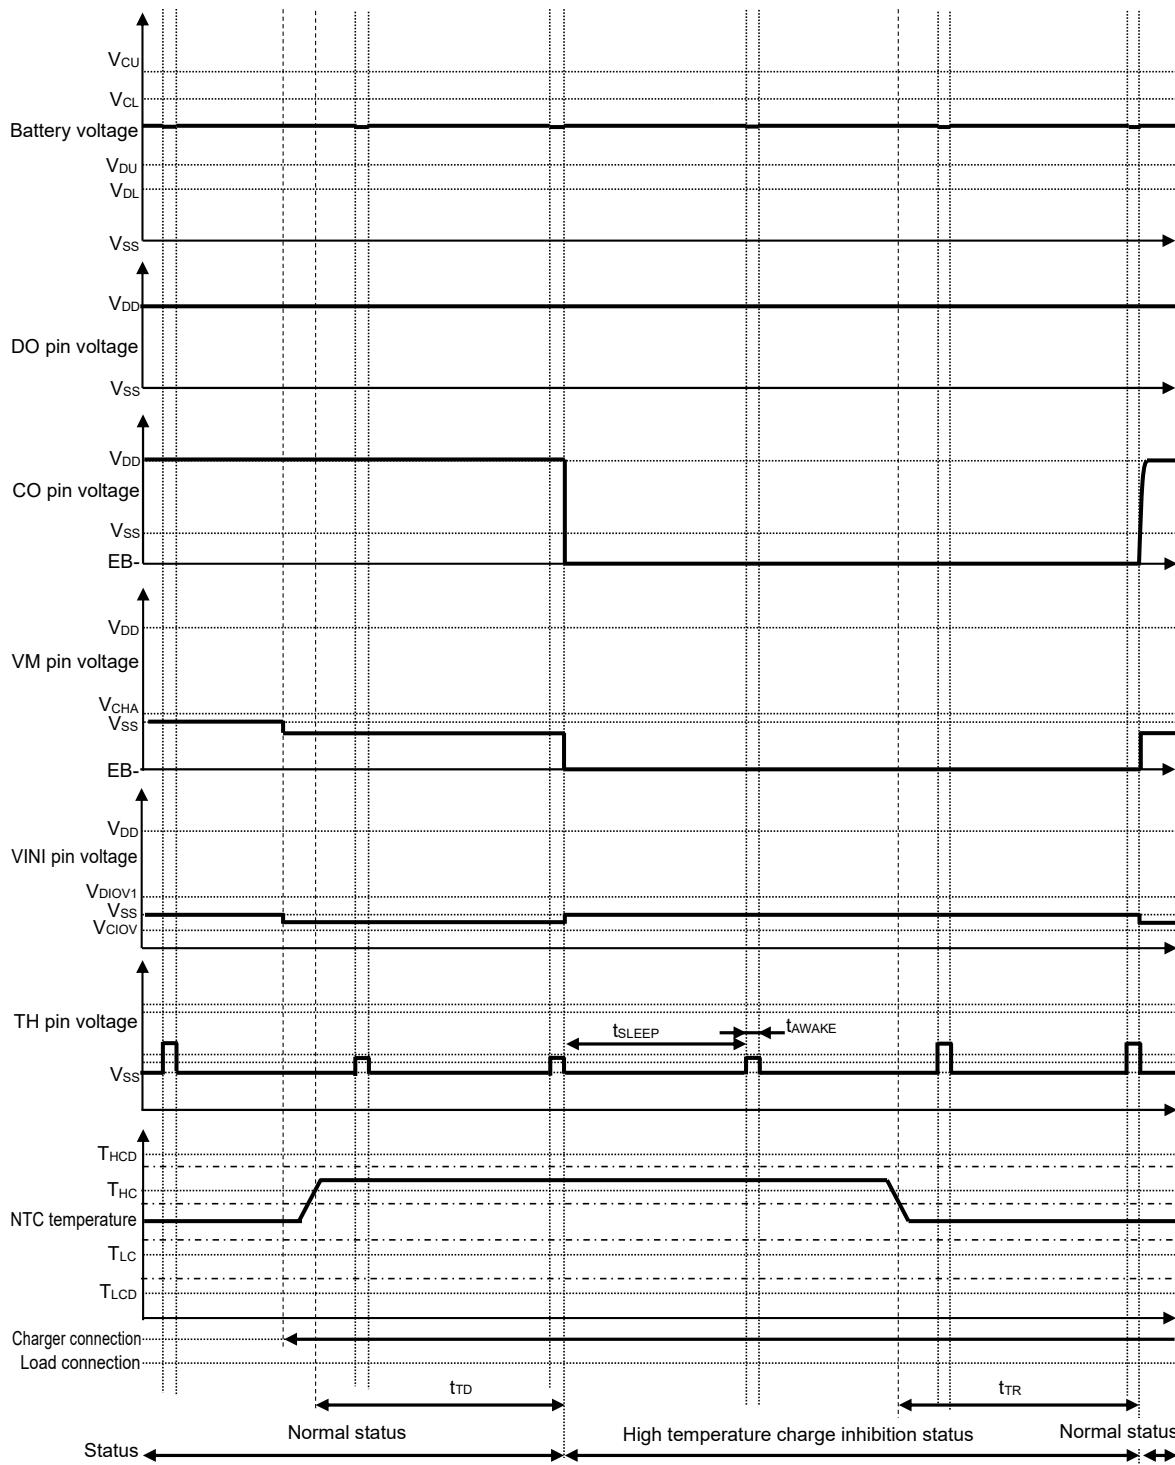

Figure 14
**Remark 1.** Figure 14 shows an example when  $N = 2$ .  $t_{DD}$  and  $t_{TR}$  have the following ranges.